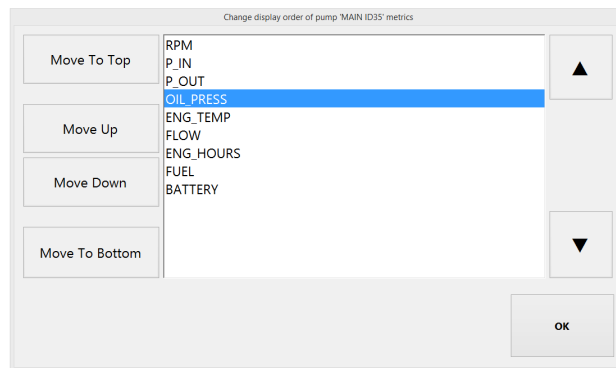

Figure 2.6: Changing the order of displayed metrics.
2. Tap the button **Change Display Order**. A dialog window containing a list of metrics will appear. Figure 2.6 on page 13 shows this window.